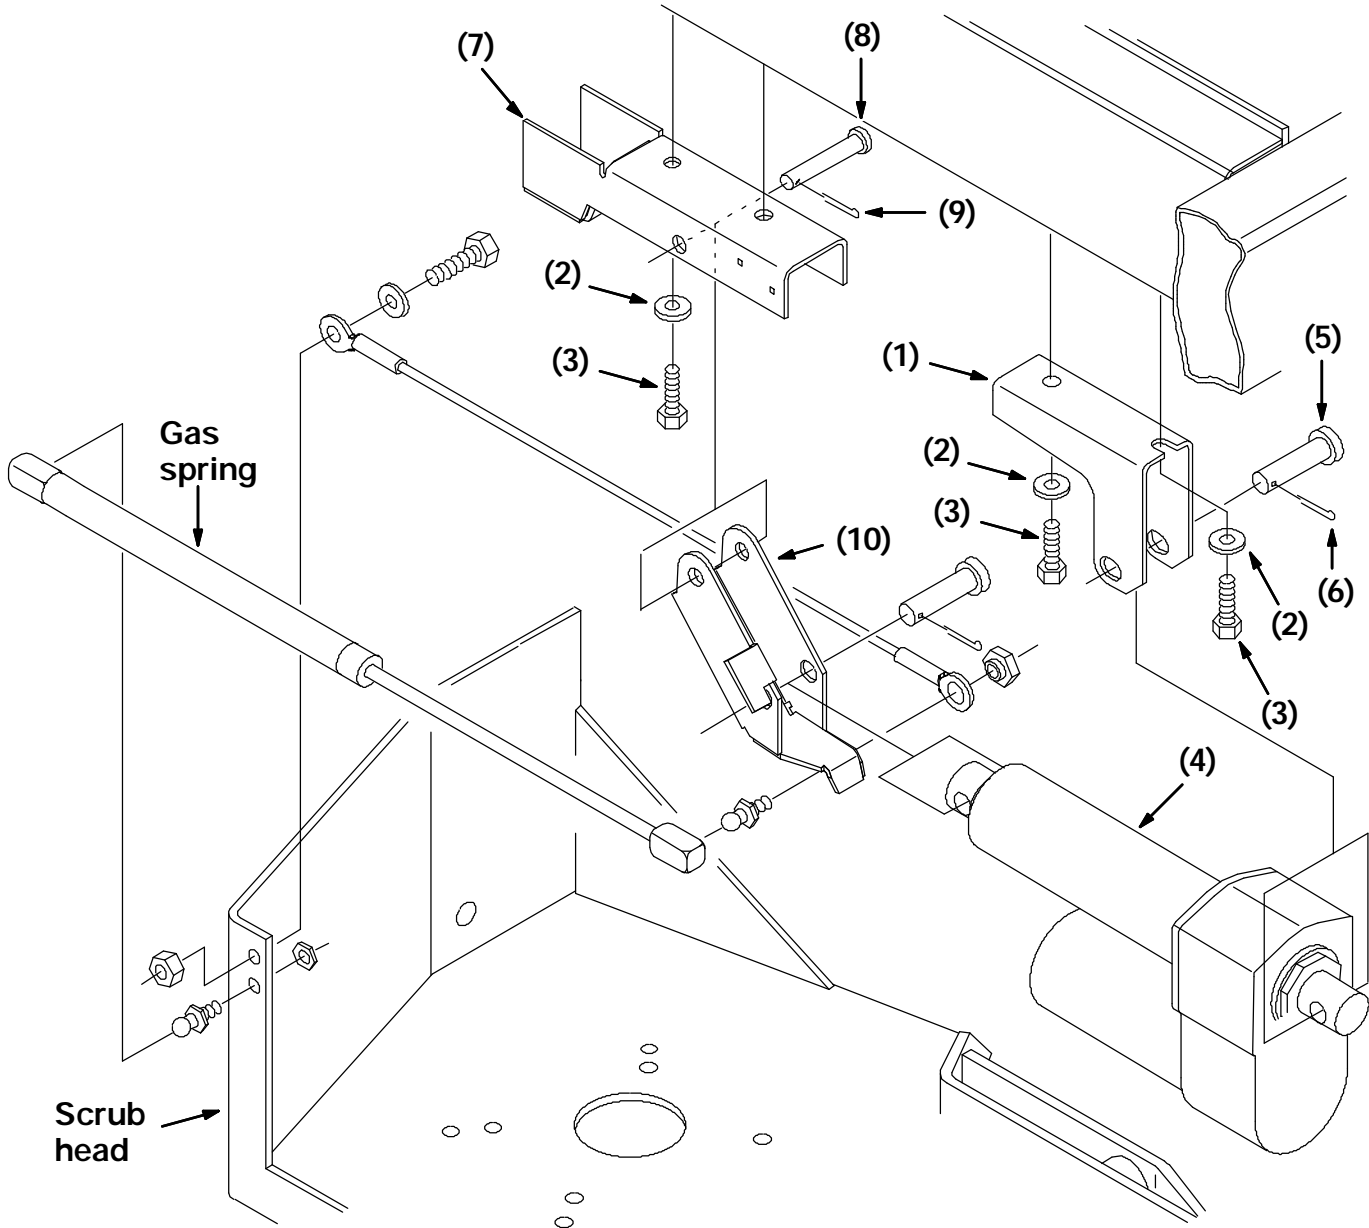

FIG. 4 - New Actuator And Mount Assembly
7. Install the new actuator (4) on the actuator mount bracket (1) and gas spring bracket (10) using two clevis pins (5), one hair cotter pin (6), and one cotter pin. (Refer to Fig. 4)
12. Route the wires from the new actuator (4) along the existing harness up to the new circuit breaker (12). Connect the terminals. (Refer to Fig. 4 and 5)
13. Use the 5 cable ties (11) to secure the new wires to the existing harness.
14. Install the existing side shift return cable to the new gas spring bracket (10) using the existing hardware. Tighten only to the point where the cable can still swivel. (Refer to Fig. 4)